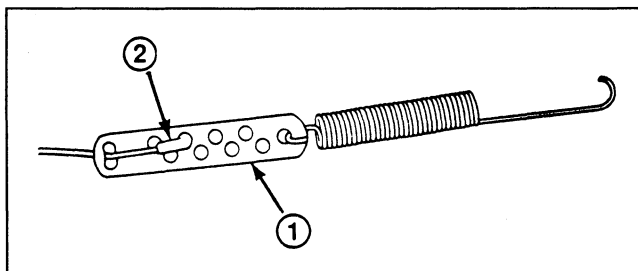

Figure 10
3. ADJUST CABLE (Fig. 10)—Unhook spring end from the top hole in control bar bracket. Slide spring cover off cable to expose cable adjuster. Unhook Z fitting from cable adjuster and reposition Z fitting in a higher or lower hole on adjuster to obtain proper gap of $1/16''$ – $1/8''$. Reinstall spring cover over cable adjuster. Rehook spring into top hole of control bar bracket.